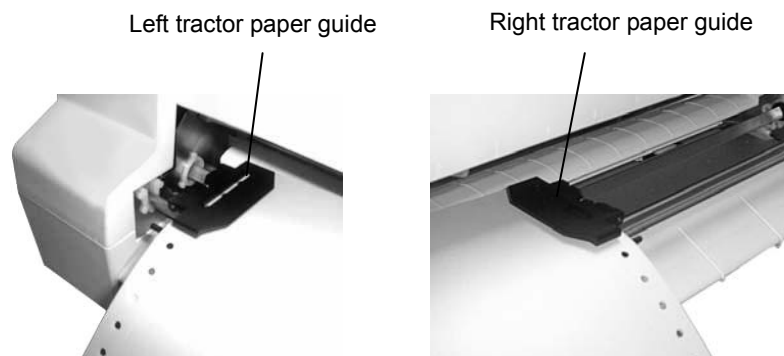

Figure 3-8 Setting tractor paper into the tractor
4. Open the tractor paper guide and place the paper on the sprocket pins as shown in Figure 3-8, then close the paper guide. If you are using preprinted paper or labels, install them with the printed or labeled side facing upwards.